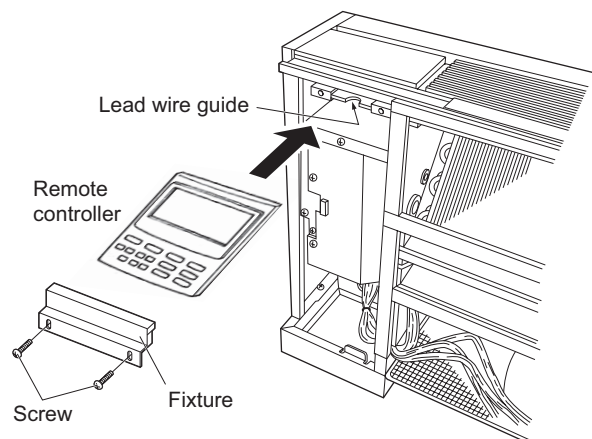

Fig. 2-241
- (2) Remove the front panel. Remove the screws and fixture. (Fig. 2-241)
- (3) Place the remote controller into the space in the unit as shown in Fig. 2-241. Assemble the lead wires of the remote controller to its rear side center and route them to the lead wire guide.
- (4) Secure the fixture using the supplied screws.